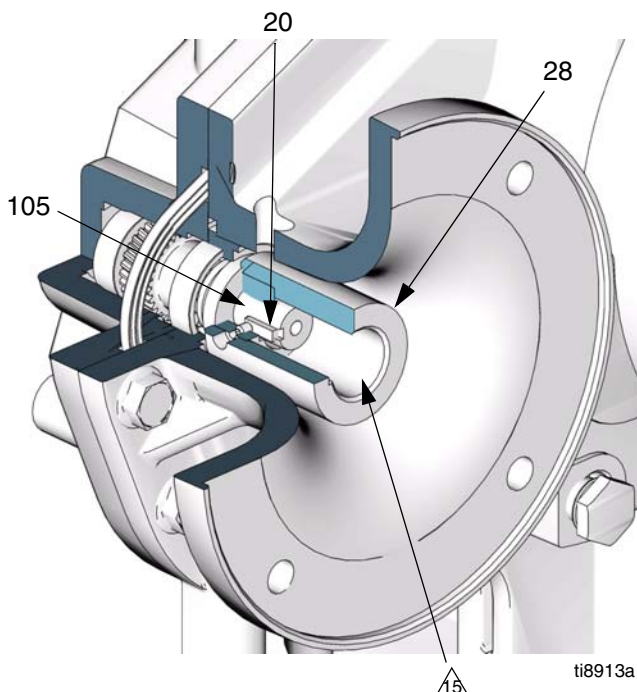

FIG. 10. Motor Coupler Installation
- d. Ensure that the collars (13) are in place in the coupling nut (14).
- e. Place a 3/4 in. wrench on the flats of the slider piston (9), to keep it from turning when you are tightening the coupling nut (14). Orient the wrench so it is braced against one of the tie rods (3) or the stand. Tighten the coupling nut (14) onto the slider piston (9) and torque to 75-80 ft-lb (102-108 N•m).
- f. See FIG. 10. Assemble the key (20) and two setscrews (31) in the coupler (28). Slide the coupler into the gear reducer so the key mates with the input shaft (105). Slide on until coupler and key bottom. Tighten setscrews to 66-78 in-lb (7.5-8.8 N•m). Apply antiseize lubricant to bore of coupling.